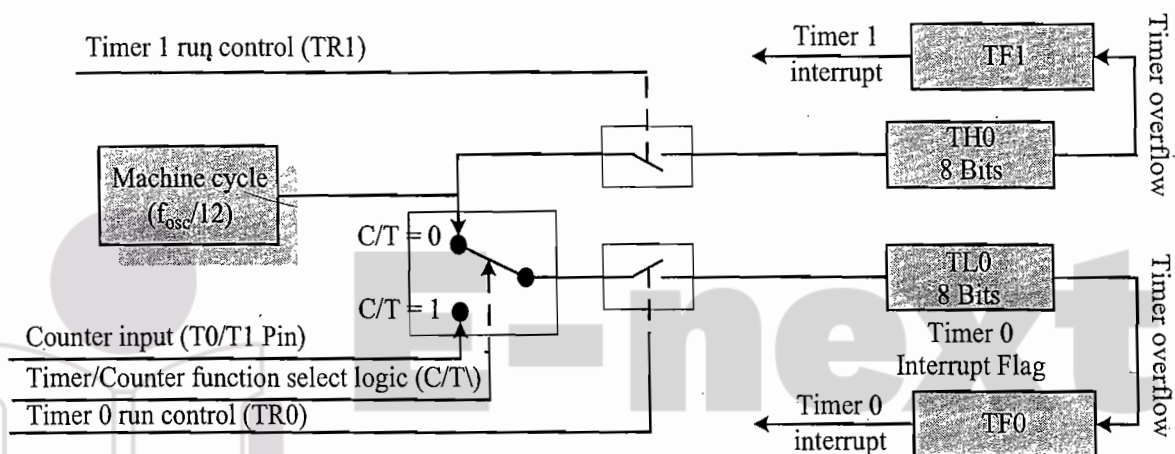

Fig. 5.30 Timer (Counter) 0 in Mode 3
5.3.8.4 Timer/Counter in Mode 3 Timer/Counter 0 in mode 3 functions as two separate 8bit Timers/Counters (Fig. 5.30). $TL0$ acts as the timer/counter register for Timer/Counter 0 and $TH0$ acts as the timer/counter register for Timer/Counter 1. $TL0$ uses the Timer 0 control bits namely $TR0$, $GATE$, C/T , $INT0$ and $TF0$. $TL0$ can run in either counter/timer mode by setting or clearing the C/T bit. Counter operation is controlled by $GATE$, $INT0$ pin, $T0$ pin and $TR0$ bit as explained earlier. But the operation is similar to that of Timer 0 in mode 3. In mode 3, $TH0$ supports only timer function and does not support counter function. $TH0$ counts only the machine cycles, not external events.